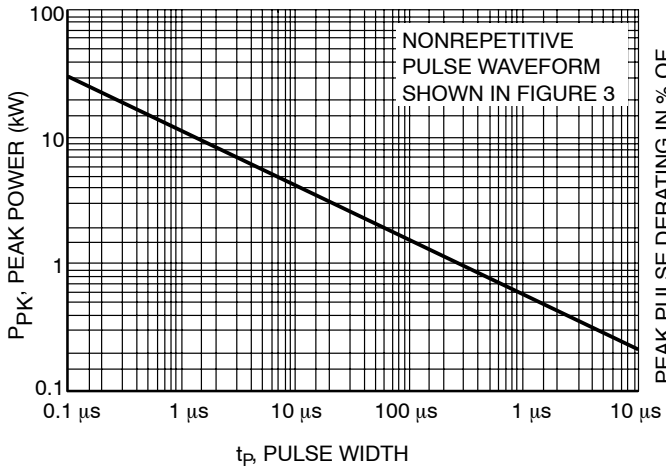
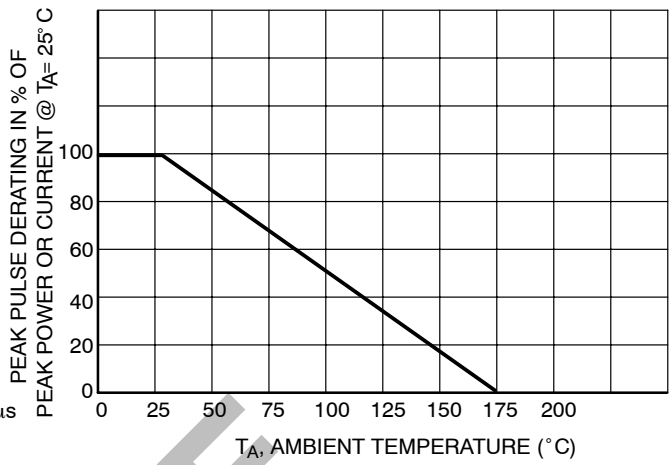
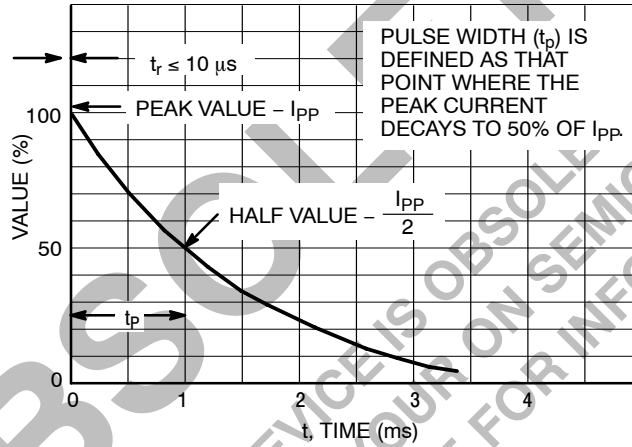
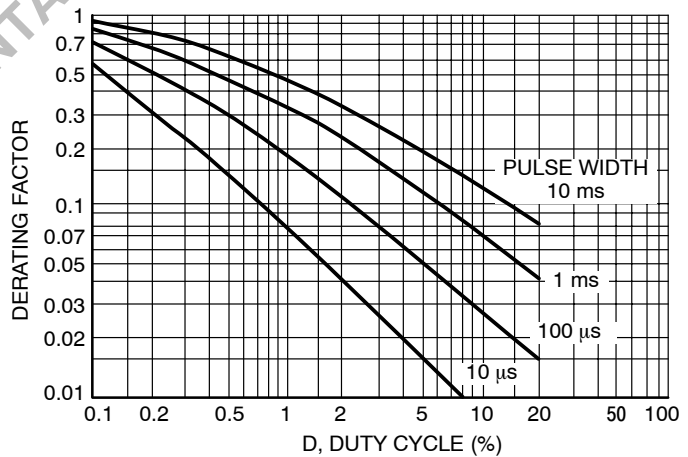

Figure 1. Pulse Rating Curve
Figure 2. Pulse Derating Curve
Figure 3. Pulse Waveform
Figure 5. Typical Derating Factor for Duty Cycle
1. Nonrepetitive current pulse per Figure 3 and derated above $T_A = 25^\circ\text{C}$ per Figure 2.
3. Surge current waveform per Figure 3 and derate per Figures 1 and 2.
The data of Figure 1 applies for non-repetitive conditions and at a lead temperature of 25°C. If the duty cycle increases, the peak power must be reduced as indicated by the curves of Figure 5. Average power must be derated as the lead or ambient temperature rises above 25°C. The average power derating curve normally given on data sheets may be normalized and used for this purpose.
At first glance the derating curves of Figure 5 appear to be in error as the 10 ms pulse has a higher derating factor than the 10 μs pulse. However, when the derating factor for a given pulse of Figure 5 is multiplied by the peak power value of Figure 1 for the same pulse, the results follow the expected trend.